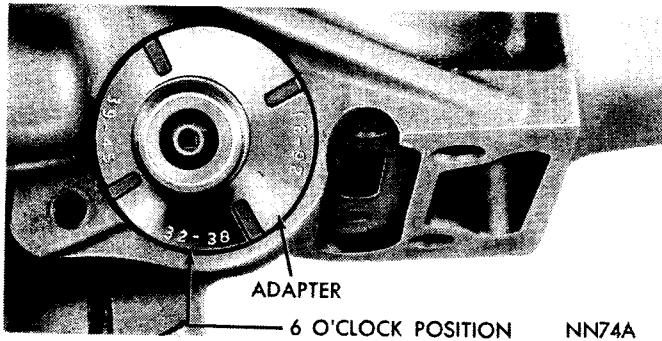
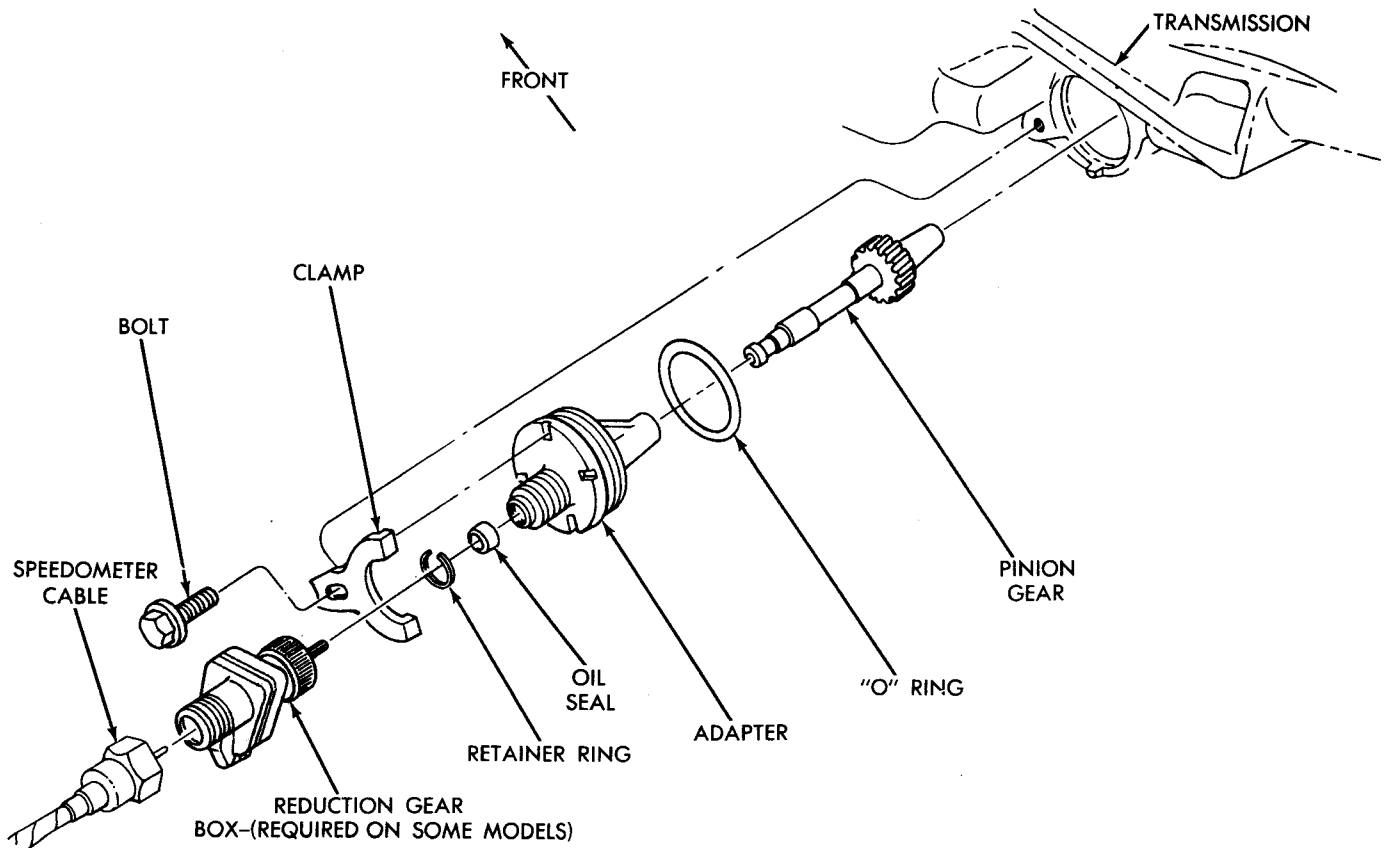
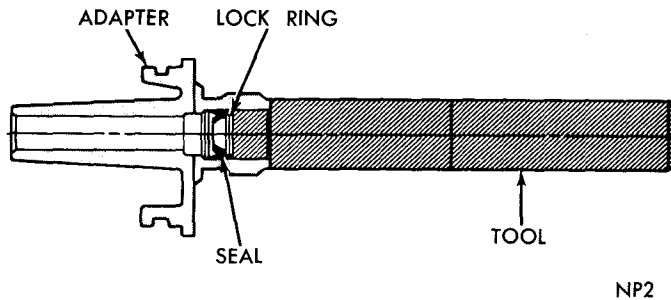

Fig. 18—Speedometer Pinion and Adapter-Installed (Retainer Removed for View)
Fig. 19—Speedometer Drive Disassembled
Fig. 20—Installing Speedometer Pinion Seal
(1) Remove bolt and retainer securing speedometer pinion adapter in the extension housing (Fig. 18).
(2) With cable housing connected, carefully work adapter and pinion out of the extension housing.
(3) If transmission fluid is found in cable housing, replace seal in the adapter (Fig. 19). Start seal and retainer ring in the adapter, then push them into adapter with Tool C-4004 until tool bottoms (Fig. 20).
(4) Note number of gear teeth and install speedometer pinion gear into adapter (Fig. 19).
(5) Rotate the speedometer pinion gear and adapter assembly so that the number on the adapter, cor-
responding to the number of teeth on the gear, is in the 6 o'clock position as the assembly is installed (Fig. 18).
(1) Mark parts for reassembly then disconnect propeller shaft at rear universal joint. Carefully pull shaft assembly out of the extension housing.
(2) Remove speedometer pinion and adapter assembly (Fig. 18). Drain approximately two quarts of fluid from the transmission.
(3) Remove bolts securing extension housing to the crossmember. Raise transmission slightly with service jack, then remove center crossmember and support assembly.